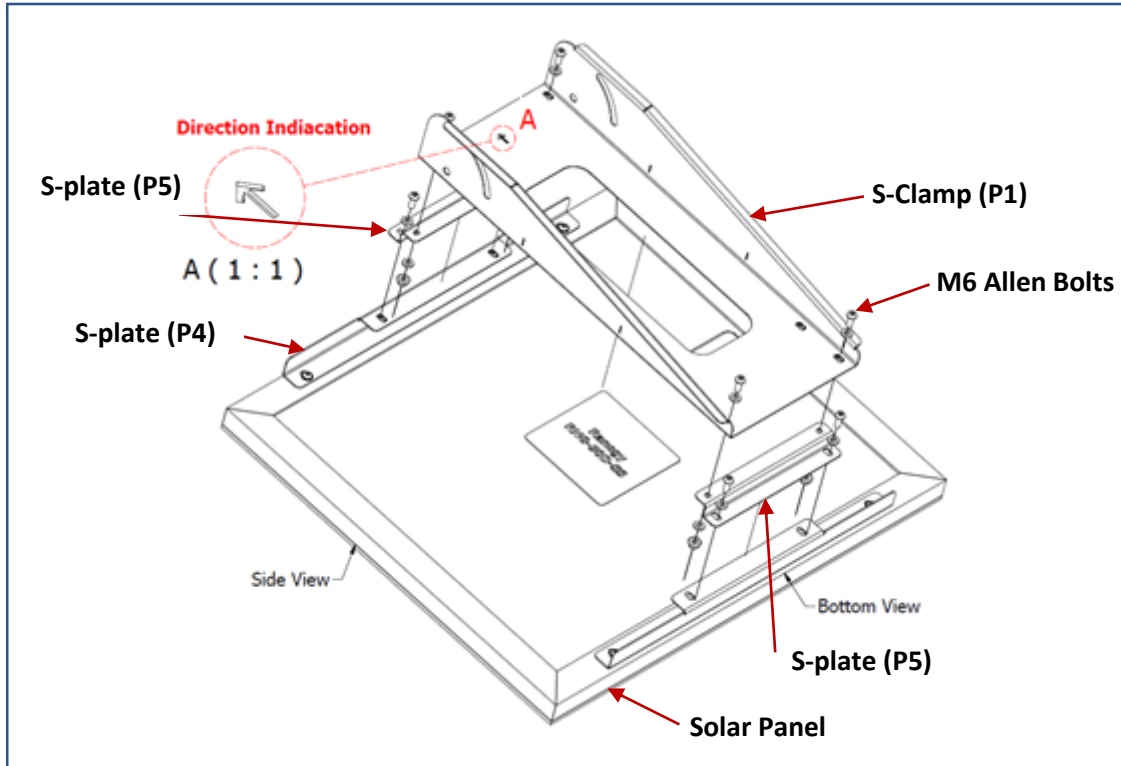

Fig.4
STEP 3: Join S- Clamp (P1) and S- plate (P5) with Sub-assembly joined in STEP 2 with M6 Allen Bolts, M6 Washers and M6 Lock Nut. Fig. 4